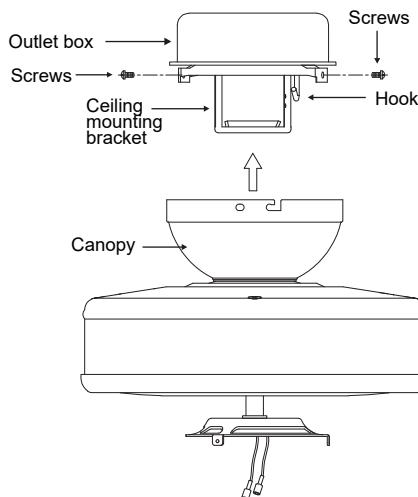

Fig. 16
**Step 3.** Make sure all four mounting screws are tight. (**Fig. 16**)